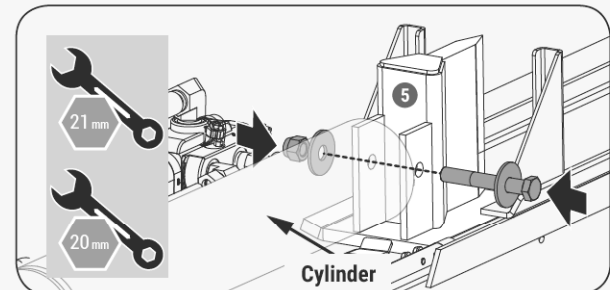

Figure 18c
3. Assemble the wedge and cylinder. (See **Figure 18c.**)